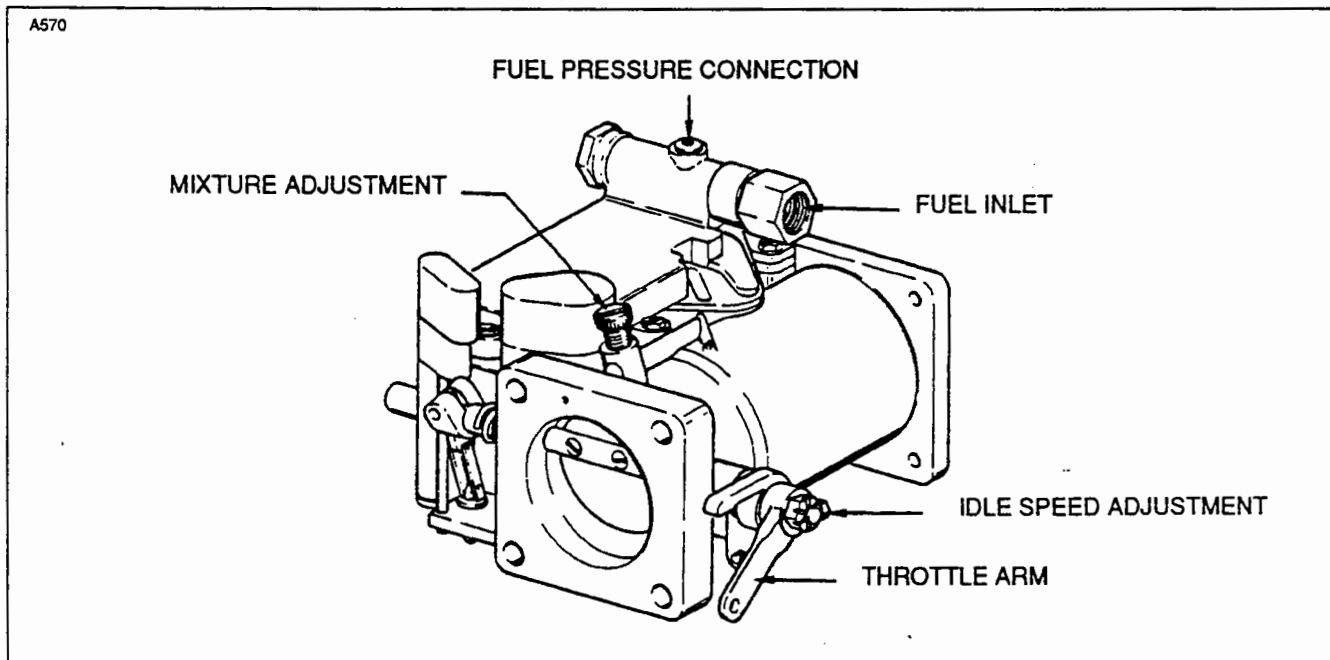

Figure 73-1. Carburetor
4. Clean the fuel inlet screen. (Refer to Figure 73-1.)
ADJUSTMENT OF IDLE MIXTURE. (Refer to Figure 73-1.)
ADJUSTMENT OF IDLE SPEED. (Refer to Figure 73-1.)